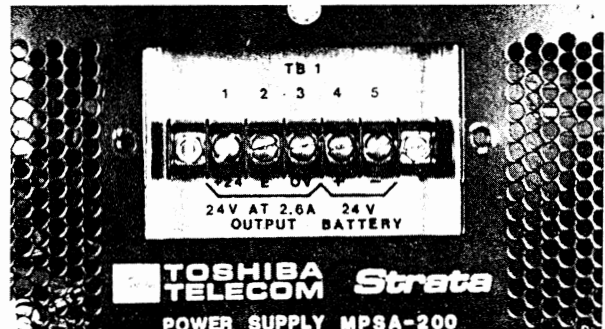

FIGURE 10
02.12 Remove the terminal strip cover (Figure 10).